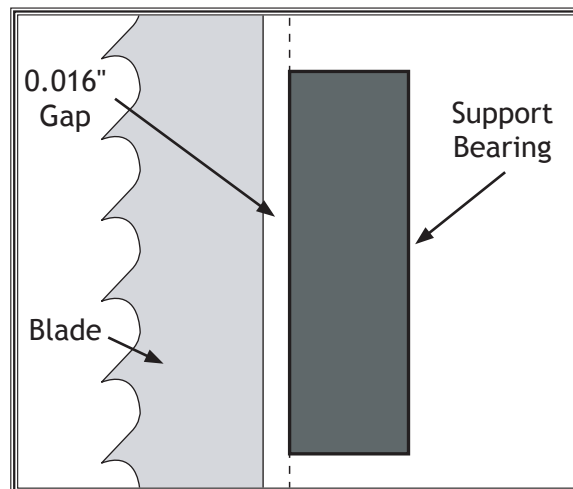
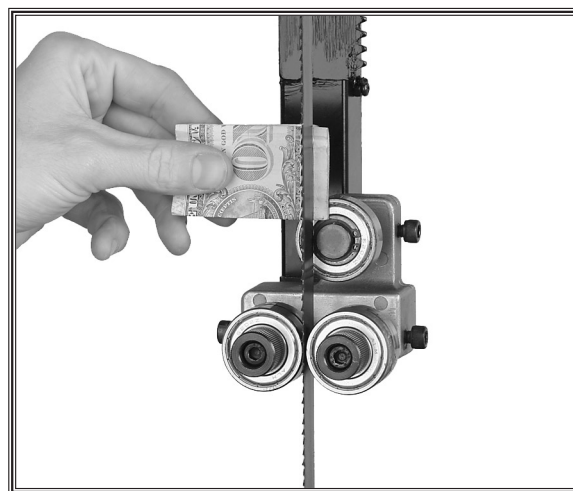

Figure 33. Blade aligned 0.016" away from the bearing edge.
Figure 34. Example of dollar bill folded twice to make an approximate 0.016" gauge.
7. Using a feeler gauge between the support bearing and the blade, position the bearing 0.016" away from the back of the blade, as illustrated in **Figure 33**.
Note: For a quick gauge, fold a crisp dollar bill in half twice (four thicknesses of a dollar bill is approximately 0.016") and place it between the support bearing and the blade as shown in **Figure 34**.
7. Using a feeler gauge, position the support bearing 0.016" away from the back of the blade, as illustrated in **Figure 33**, or use a dollar bill, as shown in **Figure 34** on **Page 25**.